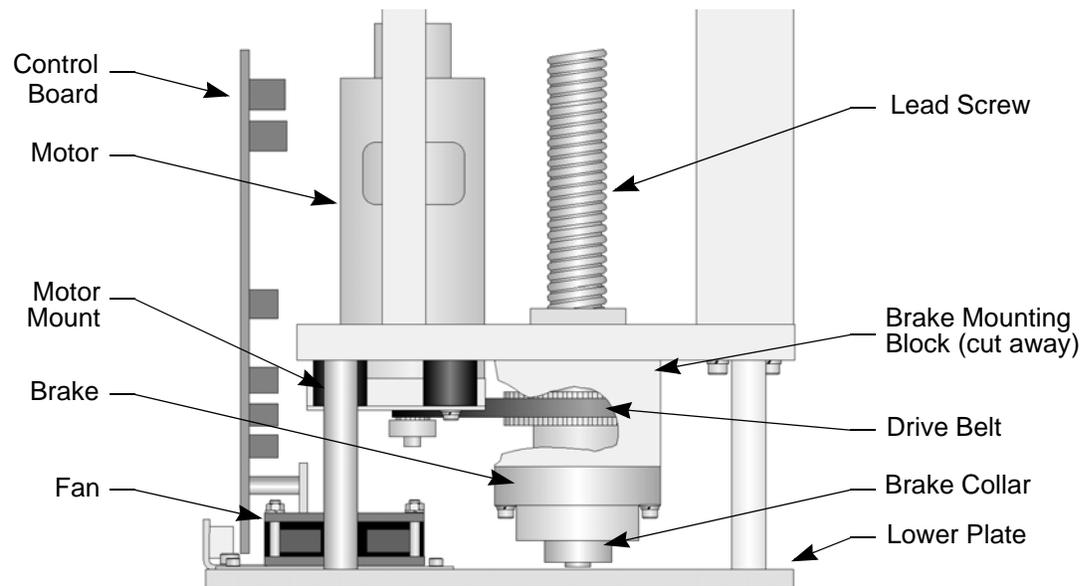

Figure 6-3: Drive Belt Replacement
6. Locate the shaft brake collar on the bottom end of the lead screw. See Figure 6-3. Loosen the collar using a  $\frac{7}{64}$  inch hex wrench.
8. Using a 4 mm hex wrench, loosen the four low profile socket head cap screws which secure the motor mounting bracket to its black rubber vibration isolators. See Figure 6-3.